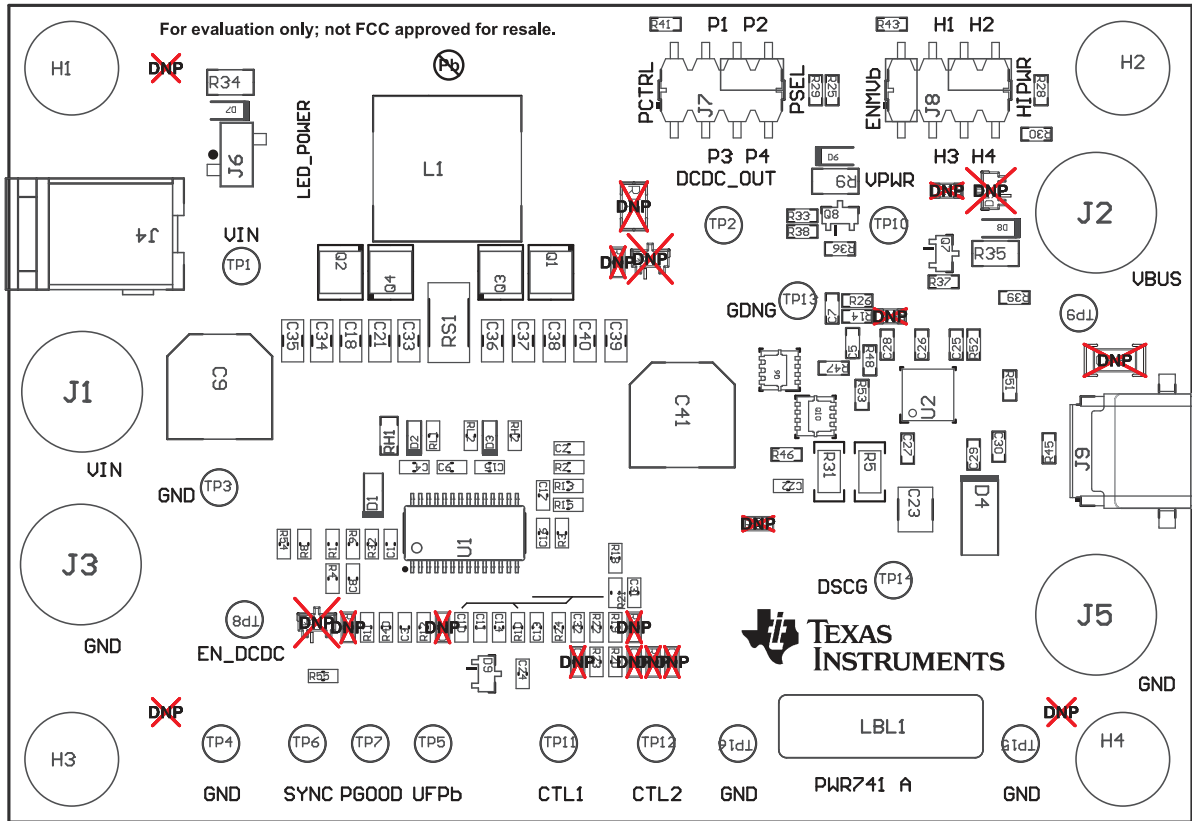
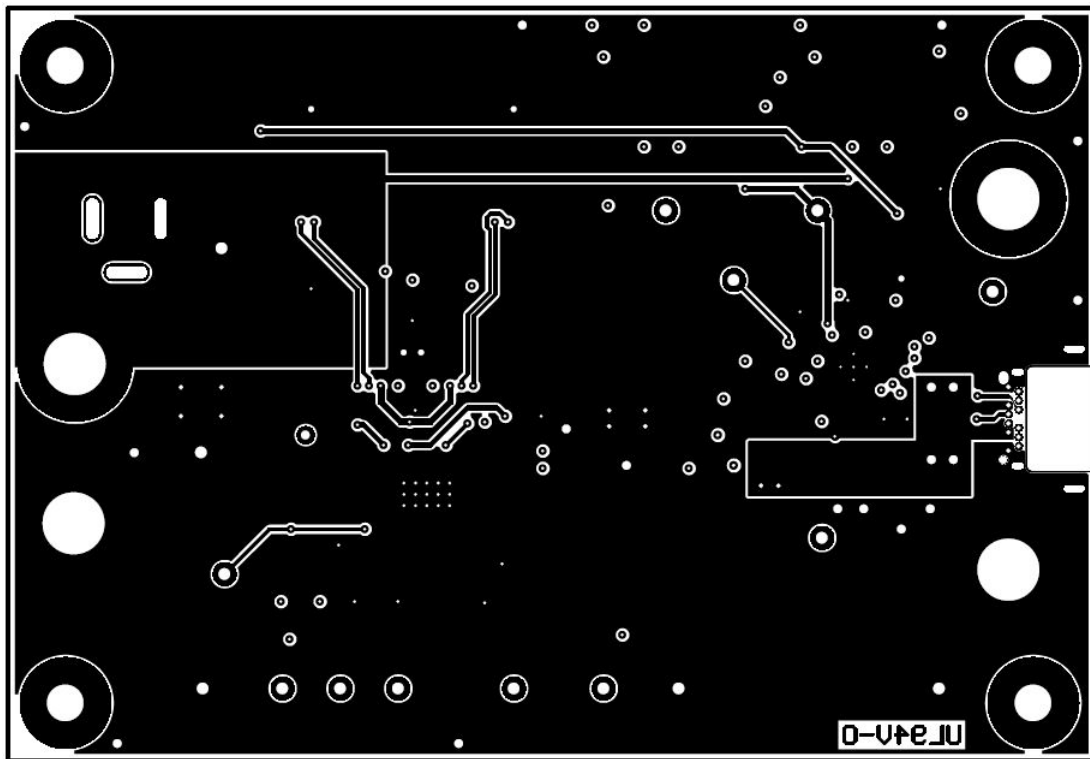

Figure 39. Top Side Placement
Figure 43. Bottom Side Routing
Figure 39 through Figure 43 show component placement and layout of the EVM.
- **C28:** Place close to pin 20 (VPWR) and connect with low inductance traces and vias according to Figure 39.
- **C25:** Place close to pin 13 (DVDD) and connect with low inductance traces and vias according to Figure 39.
- **C26:** Place close to pin 16 (VAUX) and connect with low inductance traces and vias according to Figure 39.
- **C27:** Place close to pin 1 (VTX) and connect with low inductance traces and vias according to Figure 39.
- **CRX:** Place C29 and C30 inline with the CC1 and CC2 traces as shown in Figure 39. These should be placed within one inch from the Type C connector. Minimize stubs and tees from on the trace routes.
- **RS:** Place R31, as shown in Figure 39, to facilitate uninterrupted power flow to the Type C connector. Orient RS for optimal Kelvin sense connection/routing back to the TPS25740/TPS25740A. In high current applications where the power dissipation is over 250 mW, provide an adequate copper feed to the pads of R31.
- **RG:** Place R47 and R53 near Q6 and Q10 as shown in Figure 39. Minimize stray leakage paths as the GDNG sourcing current could be affected.
- **RSLEW/CSLEW:** Place R48 and C5 near R47/R53 as shown in Figure 39.
- **RF/CF:** When required, place R46 and C22 as shown in Figure 39 to facilitate the Kelvin sense connection back to the TPS25740/TPS25740A.